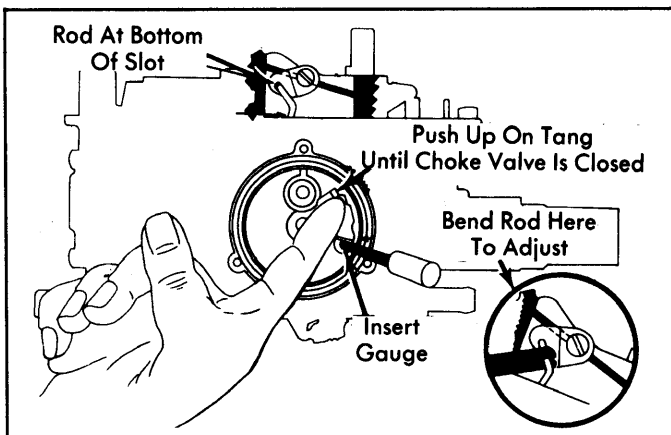

Fig. 4: Adjusting Choke Coil Lever
- 1) Loosen 3 screws retaining thermostatic cover and coil assembly and remove cover from housing. Press upward on thermostatic coil tang (counterclockwise) until choke valve is closed. See Fig. 4.